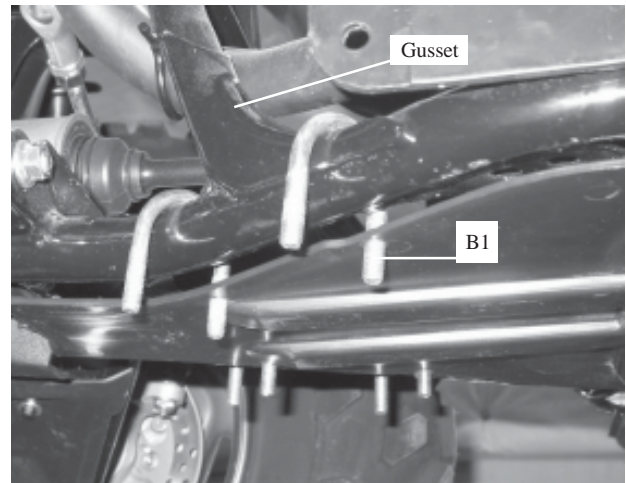

Figure 5
5. Reattach the skid plate to the vehicle. Place the supplied u-bolts (B1) around the tubes and through the drilled holes in the skid plate, Figure 5.